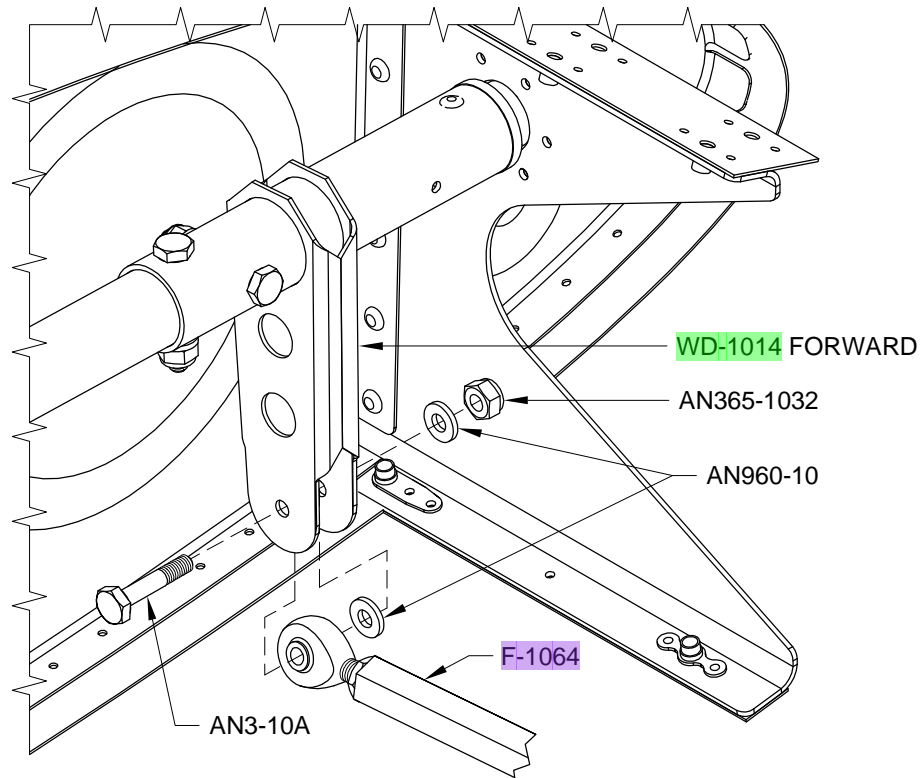

FIGURE 1: ATTACH AILERON PUSHROD
Step 1: Bolt the F-1064 Aileron Pushrod Assembly to the WD-1014 Torque Tube Assembly as shown in Figure 1. There are two washers called-out; one washer is installed inside the torque tube clevis arm along with the pushrod rod end bearing and the other washer is installed under the nut.